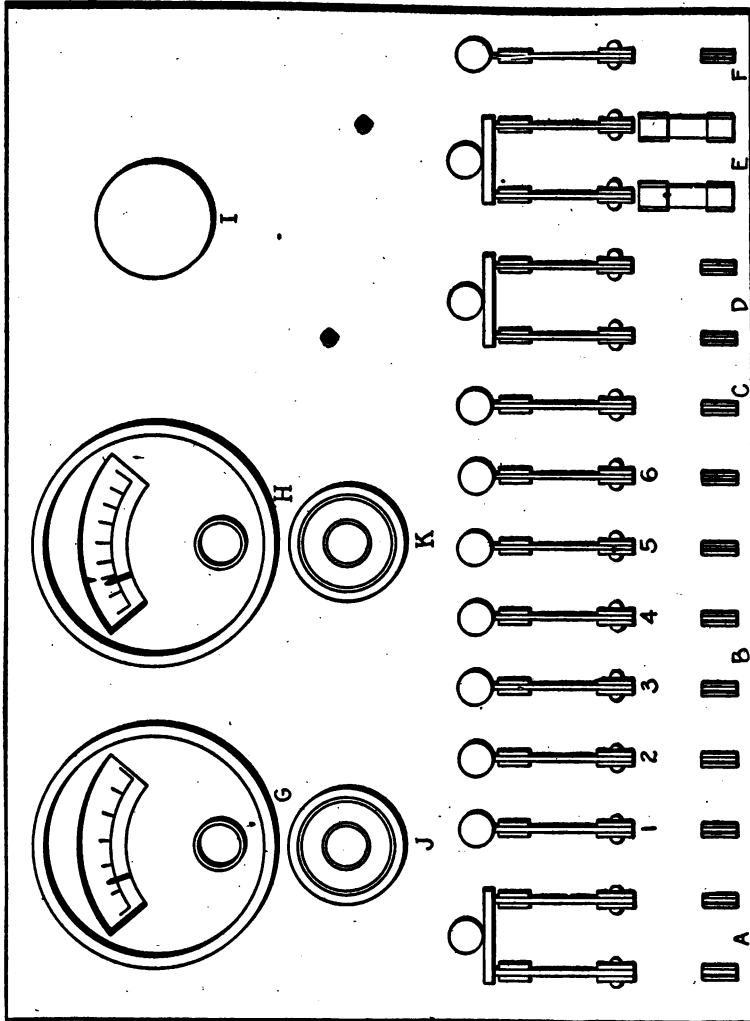

Fig. 479. Switchboard for a Generator Test Stand
**Generator Test Stand Switchboard.** When testing a generator in the stand it is necessary to have an ammeter to show the charge rate and a voltmeter to show the voltage. The switchboard for this test stand is shown in Fig. 479. It is made of slate, or marble, and has two instruments at the top of the board; *H* is the voltmeter, which should be a double-scale instrument with the high reading 50 volts and the low reading 10 volts, switching from one to the other by an ordinary three-way snap switch *K*. If unable to get a meter of this type, an ordinary single-reading meter may have a tap brought out and connected in the meter resistance so as to give the low reading. The ammeter *G* should have a 50-ampere scale with a separate shunt; the shunt wires are reversed through the four-way snap switch *J* to read either charge or discharge on the meter.